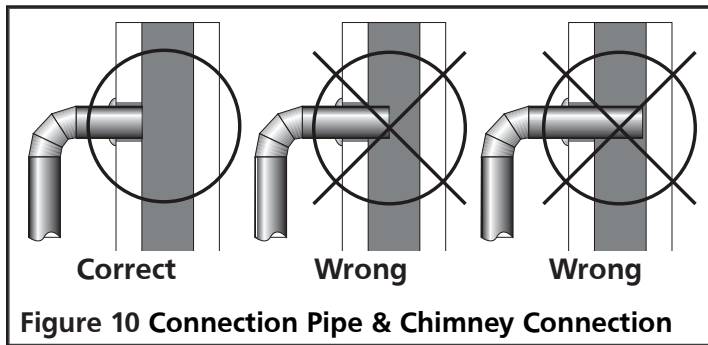

Figure 10 Connection Pipe & Chimney Connection
2. The chimney connection must not be obstructed by the chimney connector pipes, such as the figure 10 below illustrates.